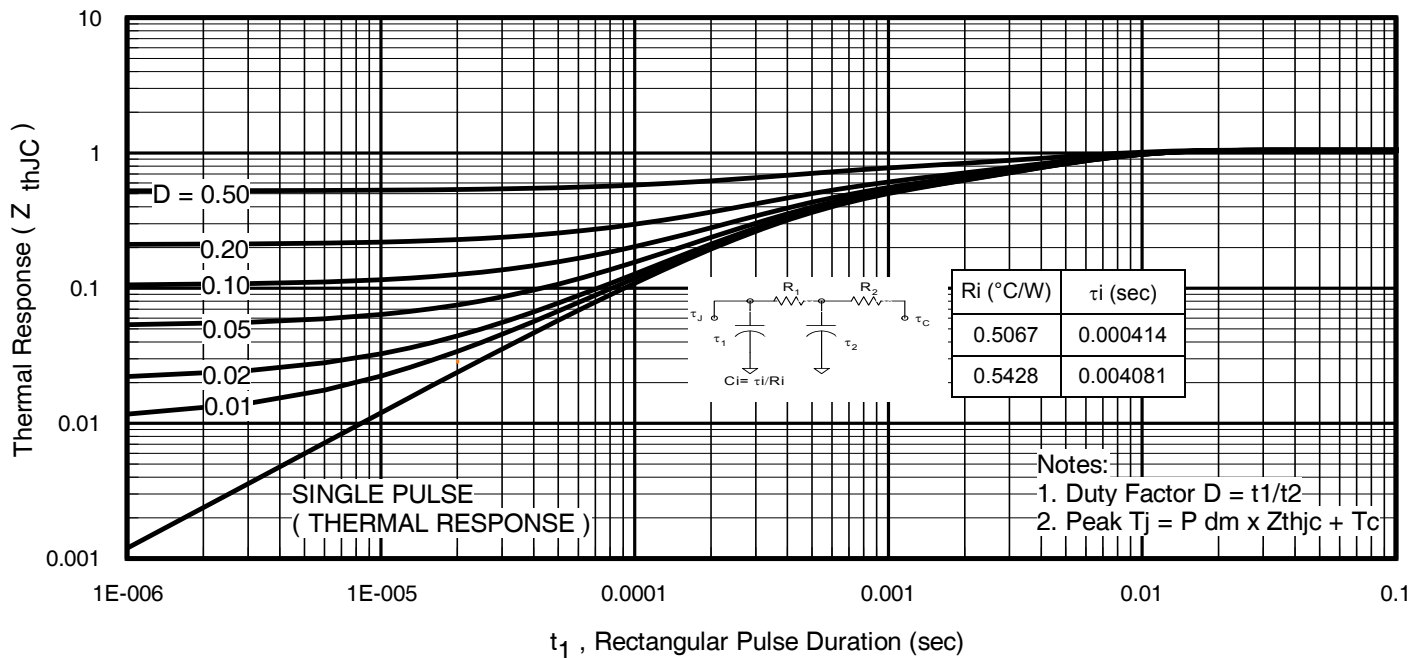
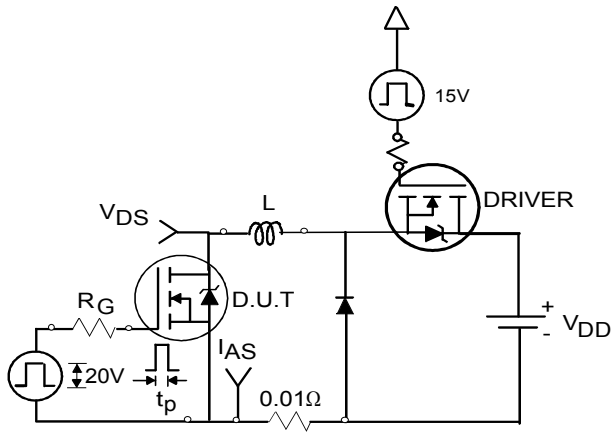

Fig 11. Maximum Effective Transient Thermal Impedance, Junction-to-Case
Fig 12a. Unclamped Inductive Test Circuit
- ① Repetitive rating; pulse width limited by max. junction temperature. (See fig. 11)
- ② Limited by T_{Jmax} , starting $T_J = 25^\circ\text{C}$, $L = 0.16mH$, $R_G = 25\Omega$, $I_{AS} = 42A$, $V_{GS} = 10V$. Part not recommended for use above this value.
- ③ Pulse width $\leq 1.0ms$; duty cycle $\leq 2\%$.
- ④ $C_{oss\ eff.}$ is a fixed capacitance that gives the same charging time as C_{oss} while V_{DS} is rising from 0 to 80% V_{DSS}
- ⑤ Limited by T_{Jmax} , see Fig.12a, 12b, 15, 16 for typical repetitive avalanche performance.
- ⑥ This value determined from sample failure population, starting $T_J = 25^\circ\text{C}$, $L = 0.16mH$, $R_G = 25\Omega$, $I_{AS} = 42A$, $V_{GS} = 10V$.
- ⑦ When mounted on 1" square PCB (FR-4 or G-10 Material). For recommended footprint and soldering techniques refer to application note #AN-994
- ⑧ R_θ is measured at T_J approximately 90°C .
3. Equation below based on circuit and waveforms shown in Figures 12a, 12b.